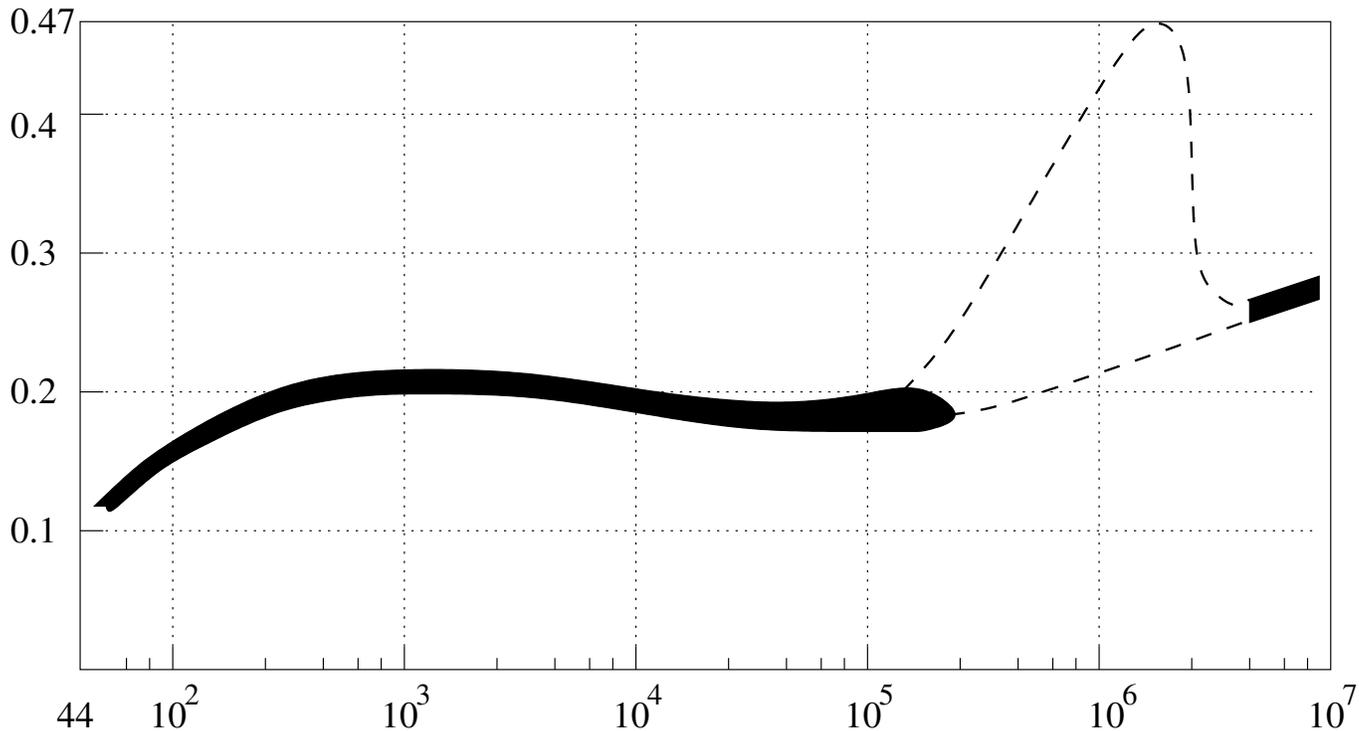

FIG. 3. Strouhal number as a function of Re
The curve figure 3 represents the frequency f_0 of the vortices of vortices as a function of Reynolds number Re around a cylinder. This frequency is characterised by the Strouhal number:
- With the PSD, you can estimate a Strouhal number (hint: use results out of the cylinder's axis). Compare with the results from figure 3.